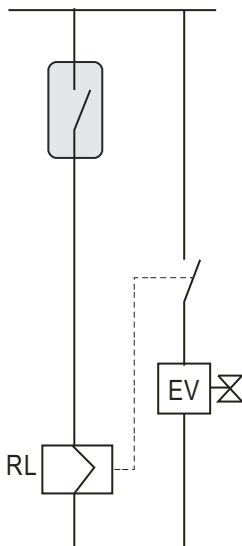
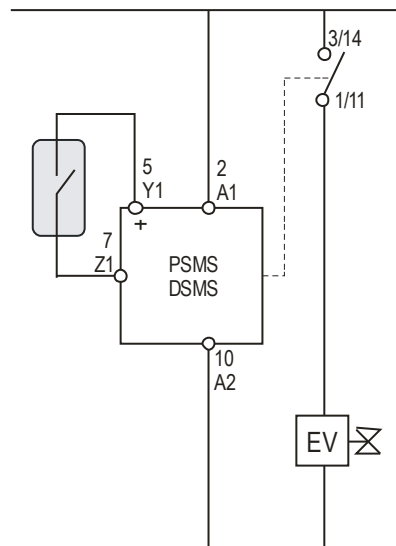

Figure 3.
Figure 4.
- It is recommended that the control devices (pump, solenoid valve, etc.) be actived through an standard auxiliary relay (figure 3) or through a protective relay PSMS/DSMS (figure 4).